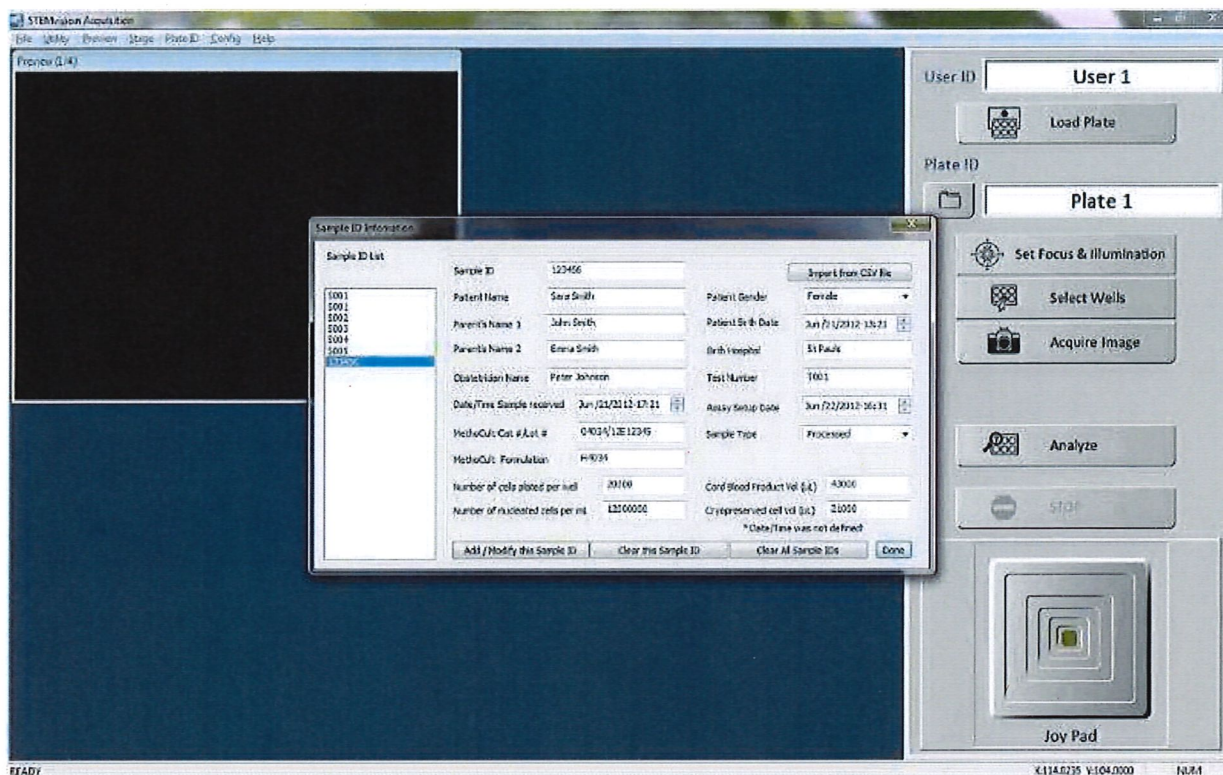

Figure 5
- 8.6.2.3 Populate the fields of the “Sample ID Information” dialog box with the relevant information. See *Figure 5*.
- 8.6.2.4 Click the “Add/Modify this Sample ID” button when finished populating the fields. The sample will appear on the left side of the dialog box under “Sample ID List”. See *Figure 5*.
- 8.6.2.6 Click the “Done” button when both samples to be imaged have been added to the list. See **Figure 5**.